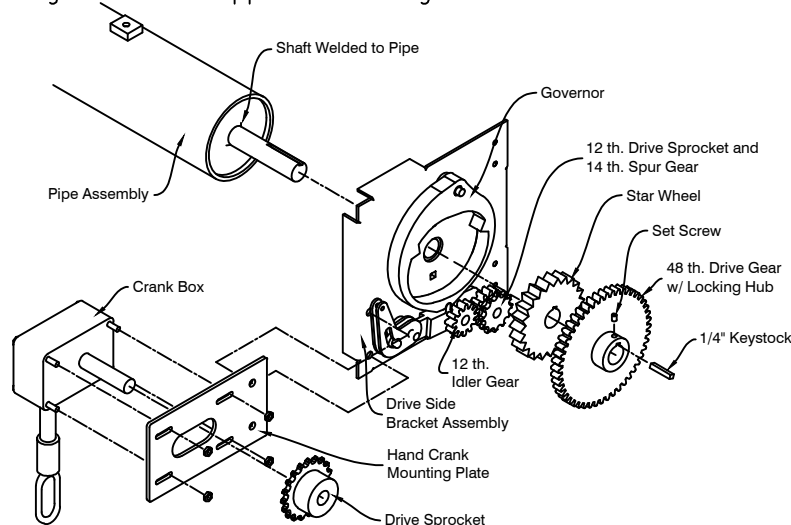

Fig. 11
c) Hand crank operation – Assemble the drive (governor) bracket on the drive side shaft of the pipe assembly (drive side is the side with the shaft welded to the pipe) as shown in Fig. 11. Align the star gear with the governor and align the drive gear to mesh with the idler gear. Insert the key stock and lock all set screws in place. NOTE: Brackets are shown as right hand drive, left hand drive is opposite. \*Doors under 4'-0" high are not supplied with a governor.